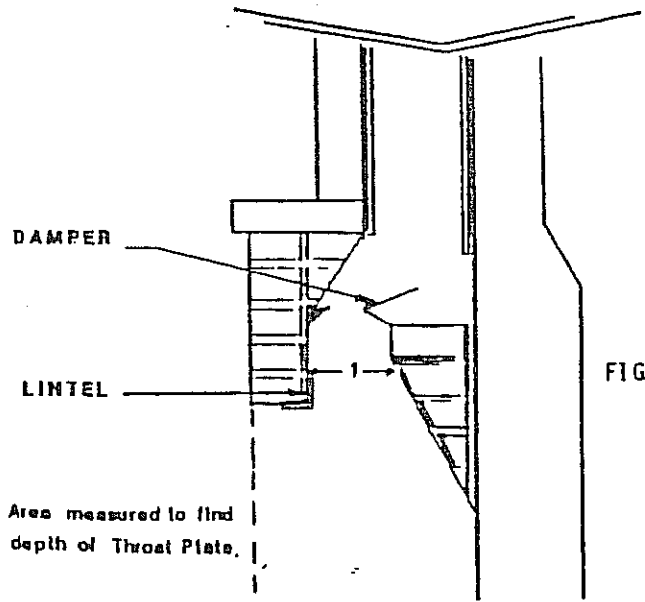

FIGURE 4
2. Wire open or remove fireplace damper. (Fig. 4)
1. Measure below damper area the width from side to side at rear of smoke chamber (Fig. 4)